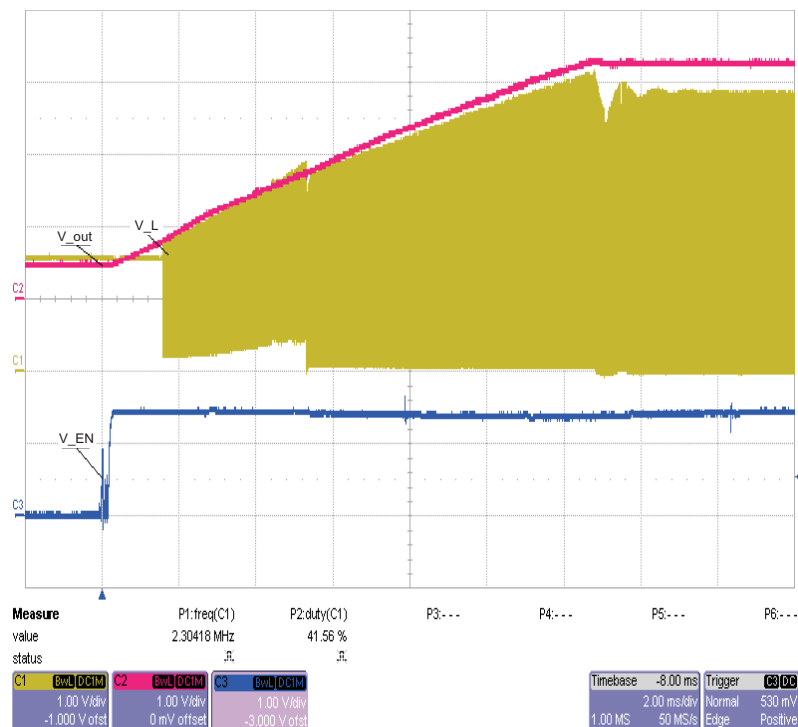

Figure 4. Power-Up With Enable: Boost Switch Node, V_L , Output, Enable; $V_{in} = 1.5$ V, $V_{out} = 3.3$ Vdc With 49.9- Ω Load
5. Remove the shunt on JP1-OFF and place on JP1-ON. Verify that the converter starts back up (see Figure 4).